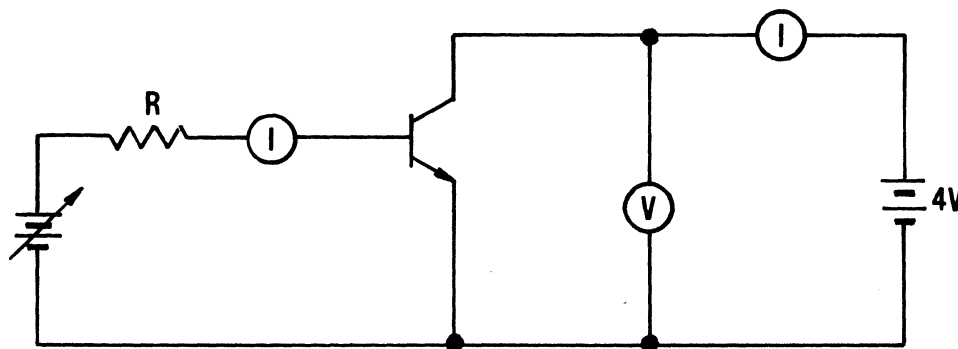

Figure 4.5 Transistor Gain Test Circuit
**Transistor Gain Test Circuit**—Gain measurements should be made on a curve tracer or a high current pulsed test set. A D.C. gain measurement can be made if precautions are taken to limit the power dissipation and a heat sink is used. The case temperature should be monitored. A resistor to drop about 2 volts is used in the base as shown in Figure 4.5. The base voltage is slowly increased until the desired collector current is